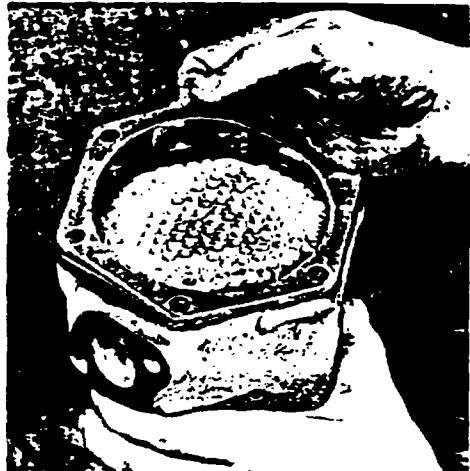

Figure 2-302. Placing Gasket on Bundle
8. Place gasket on bundle end. See Figure 2-302.